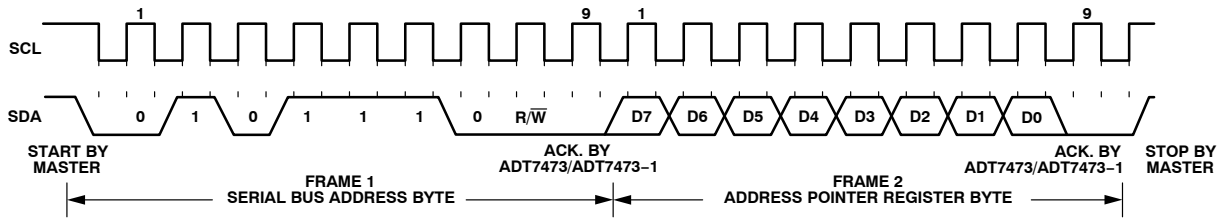

Figure 18. Writing to the Address Pointer Register Only
- If the ADT7473/ADT7473-1’s address pointer register value is unknown or not the desired value, it must first be set to the correct value before data can be read from the desired data register. This is done by performing a write to the ADT7473/ADT7473-1, but only the data byte containing the register address is sent, because no data is written to the register. This is shown in Figure 18.